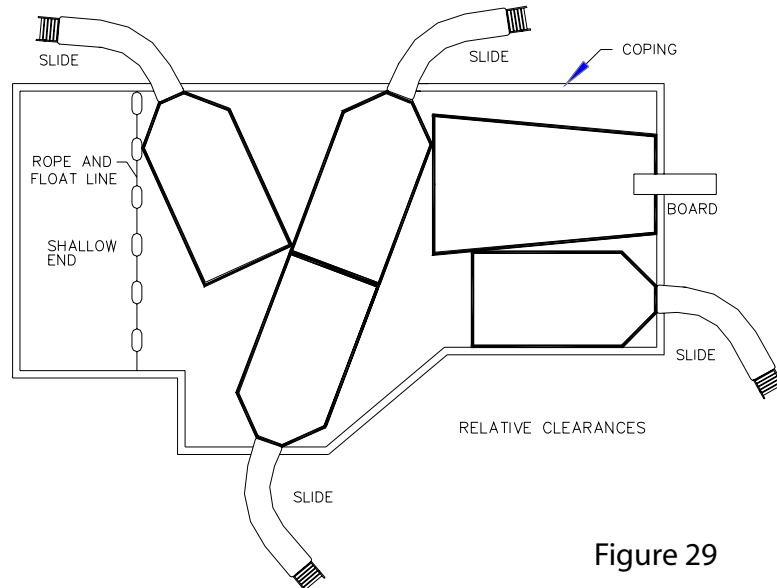

Figure 29
- 2) A minimum clearance area in front of the slide shall be maintained away from the coping, another slide, a diving board or a rope and float line. (See Figure 29)
C. The minimum clearance area of a slide or diving board shall not intersect any coping or rope and float line. (See Figure29) The minimum clearance area of a slide or diving board may intersect each other provided that they are not used simultaneously.